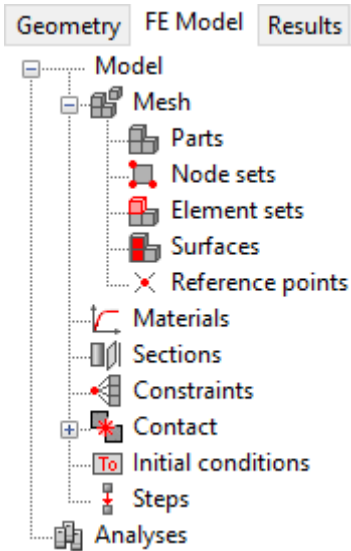

Figure 3: FE Model tab of the model tree
- 2) FE Model – analysis set up (pre-processing) (Figure 3).